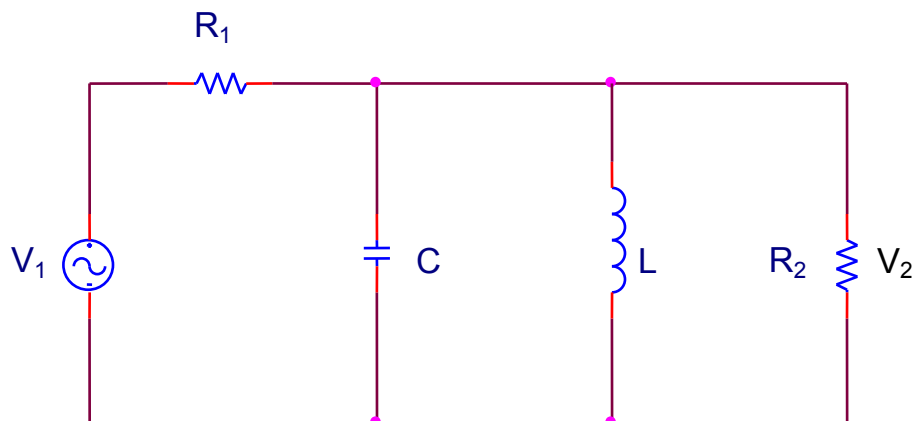

Figure 11.4
5. Repeat 1-3 for the circuit of Figure 11.4 with $R = 3.3\text{k}\Omega$ ohms and $L = 68\text{mH}$.
2. Repeat part 1 for the circuit of Figure 11.4.
3. Repeat part 1 for the circuit of Figure 11.4 with $R = 15\text{k}\Omega$, $L = 68\text{mH}$, and $C = 0.01\mu\text{F}$.